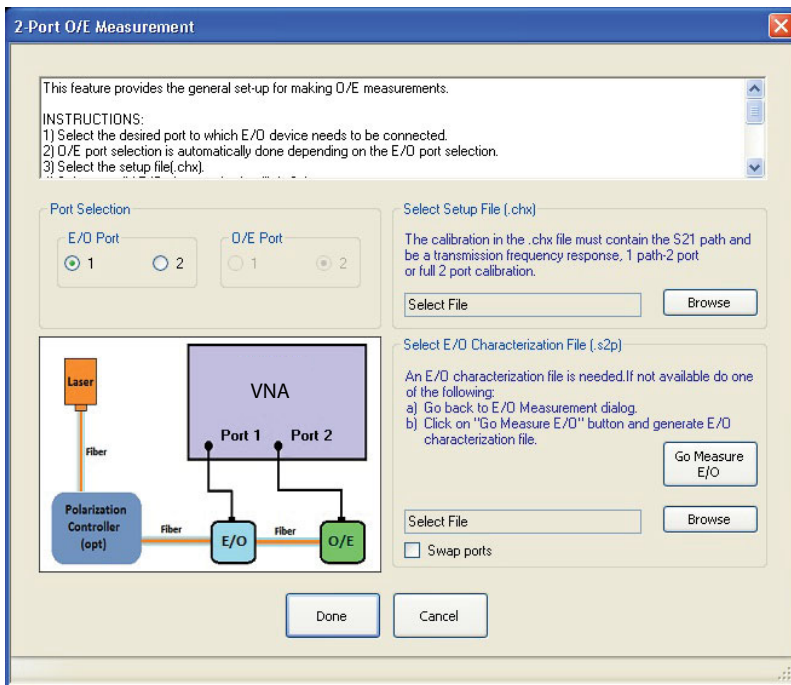

Figure 3-5. O/E Measurement Dialog
3. Follow the instructions in the dialog shown in Figure 3-5 to load the 12-term electrical calibration that was saved in Step 1.